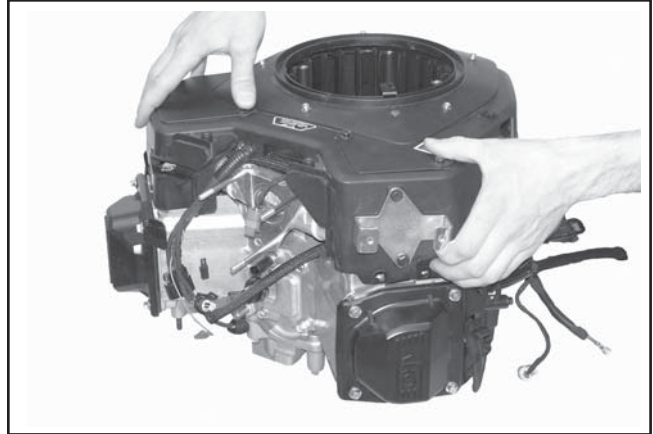

Figure 10-55. Installing Blower Housing.
1. Slide the blower housing into position over the front edge of the inner baffles. See Figure 10-55. Start a few of the screws to hold it in place.